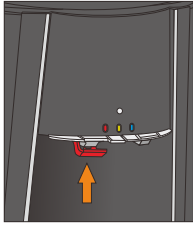
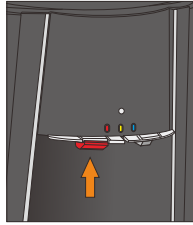
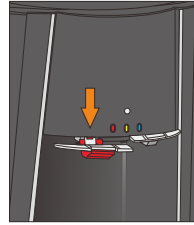

Figure 11
Figure 12
Figure 13
2. Push the **RED** lever upwards (Figure 11), (Figure 12), and depress faucet lever to dispense water (Figure 13)